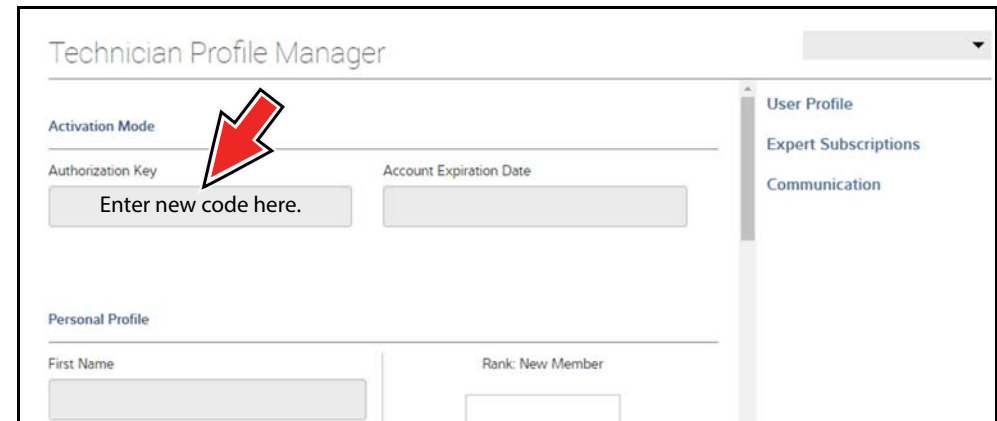

Figure 15-17
7. Enter your new **Authorization code** (Figure 15-17).